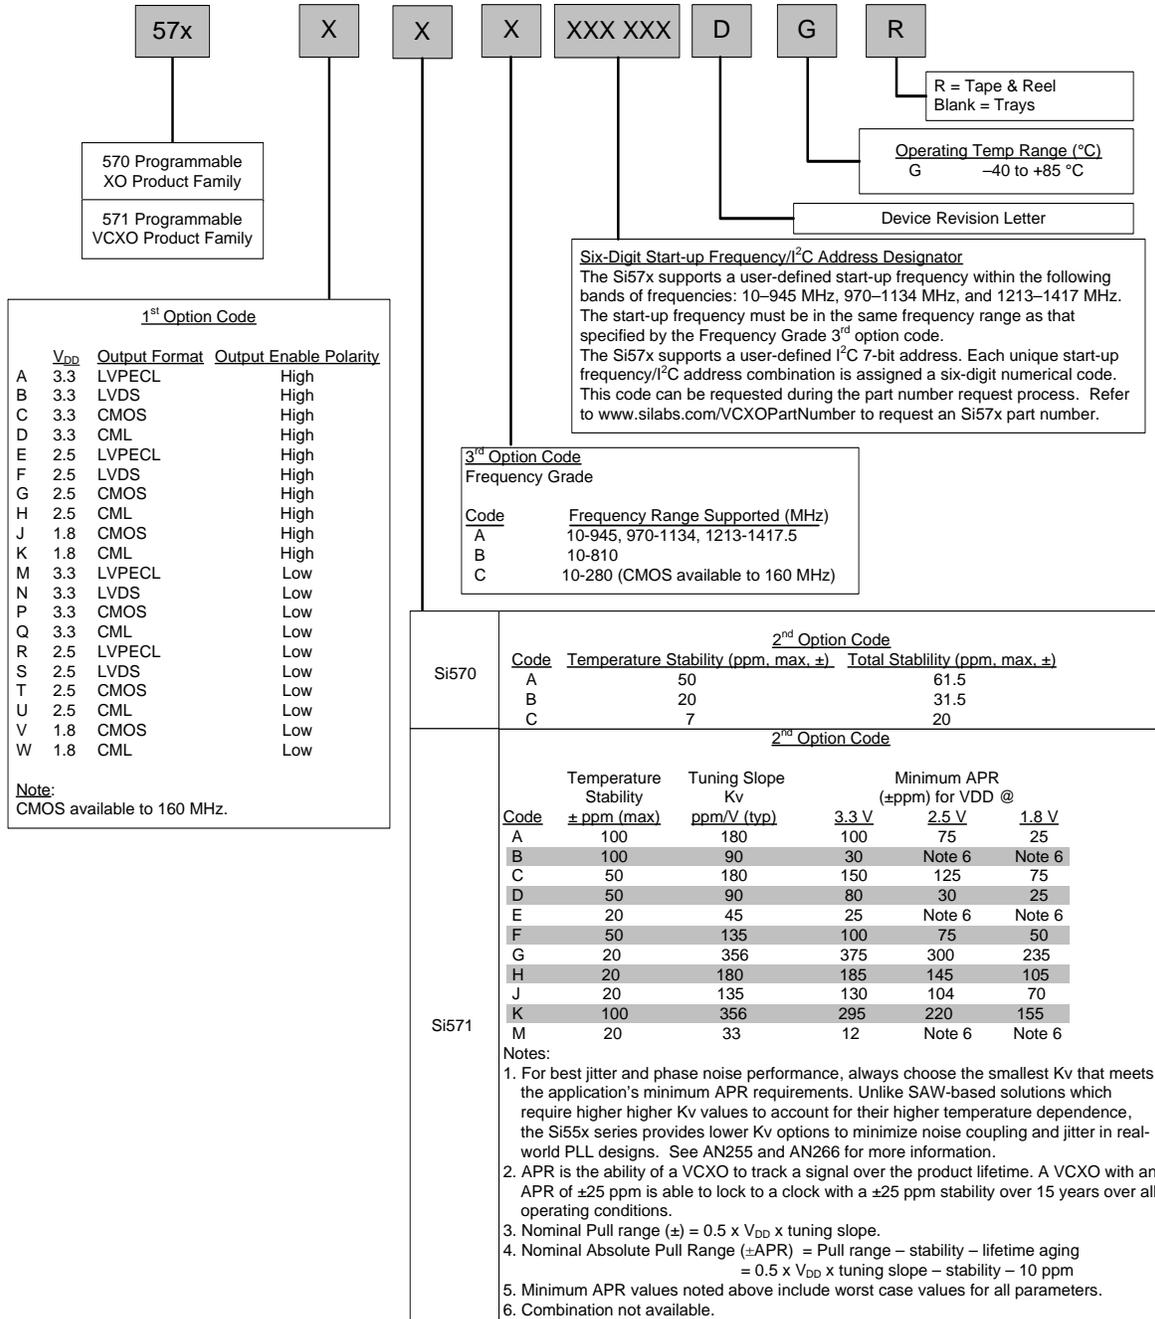

Figure 6. Part Number Convention
- Added Si570 20 ppm Total Stability Ordering Option to Figure 6 on page 32.
- Added Si570 7 ppm Total Stability Ordering Option to Figure 6 on page 32.